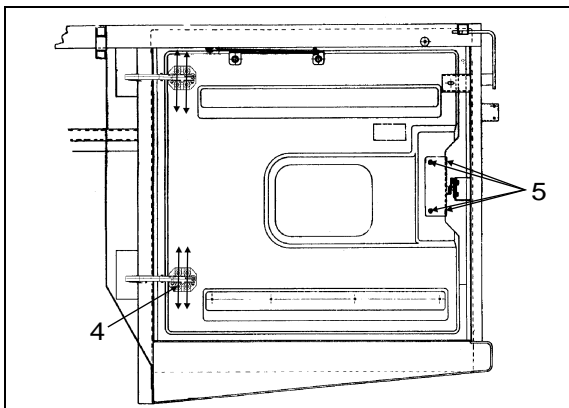

FIGURE 74: ENGINE COMPARTMENT R.H. DOOR
2. Loosen nut (1, Fig. 74).
3. Move part (3, Fig. 74) as shown in figure for "LEFT or RIGHT" adjustment.
4. Tighten nut (1, Fig. 74).
5. Loosen nut (2, Fig. 74).
7. Loosen screws (3, Fig. 74). Screws allow the door to be shifted "UP or DOWN".